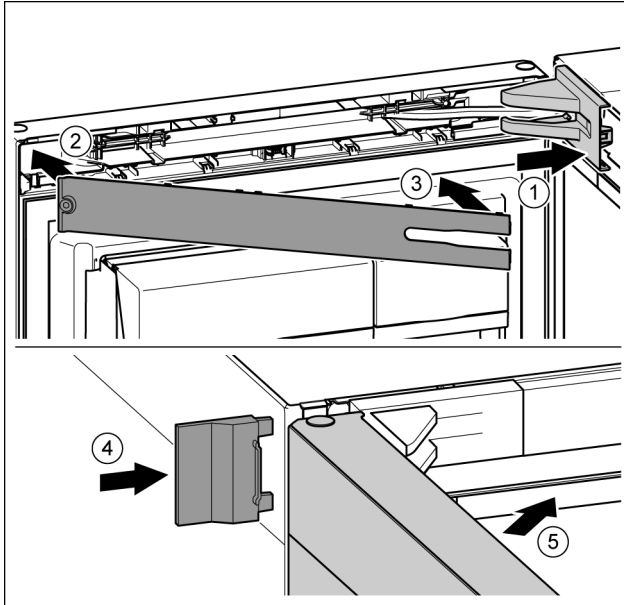

Fig. 21
- ▶ Position the bearing bracket and engage. If necessary push apart carefully. *Fig. 21 (1)*
- ▶ Position the panel. *Fig. 21 (2)*
- ▶ Swing in the panel and click into place. *Fig. 21 (3)*
- ▶ Slide on the external cover. *Fig. 21 (4)*
- ▶ Close the upper door. *Fig. 21 (5)*